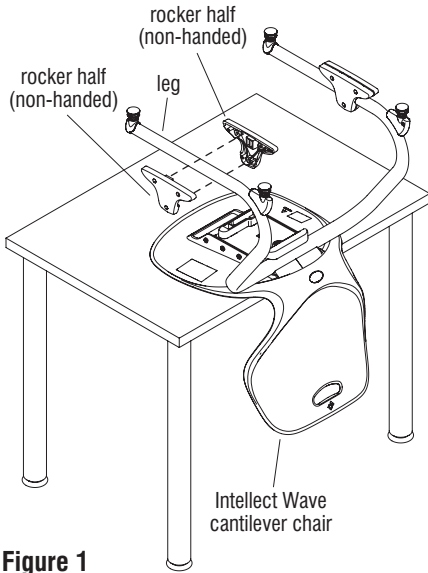

Figure 1
1. Place the Intellect Wave cantilever chair upside down with the seat portion turned onto a tabletop as illustrated (Figure 1).
2. One chair leg at a time, position two rocker halves over a leg bottom as illustrated. Then, at each inside mounting location, **orient the nylon end of the #10-24 locking nut to face outward, then press-fit** into the rocker-half mounting hole location. At the outside mounting location, twist the three #10-24 x  $\frac{7}{8}$ " Allen socket head cap screws in to slightly snug using an Allen wrench. The screws should be snug enough to allow sliding of the rocker to the correct position for tightening (Figures 1 & 2).